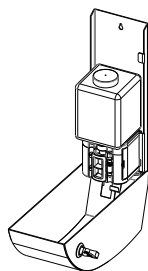

Fig. 2
1. Open the housing using the key provided (Fig. 2).